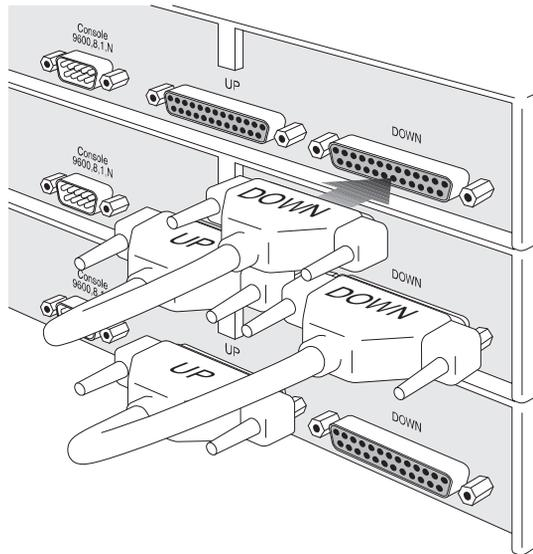

Figure 3-5 Connecting PS Hubs Together
- 3 Continue up the stack, repeating step 2 for each unit, as shown in Figure 3-5.